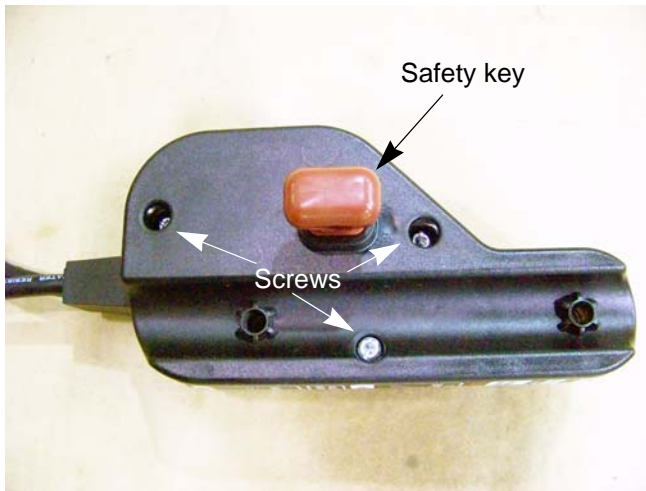

Figure 2.24
3. Remove the three housing screws using T-20 torx driver. See Figure 2.24. Remove the switch box by following the steps described in the switch box section of this chapter.